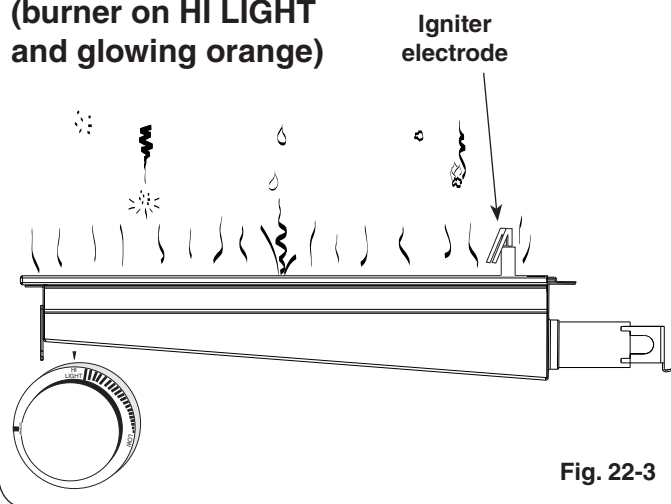

Fig. 22-3
- **DO NOT** place food on the cooking grid until the IR burner glows orange (Fig. 22-3). Drippings are heated and evaporate instead of sticking to and impairing burner function.